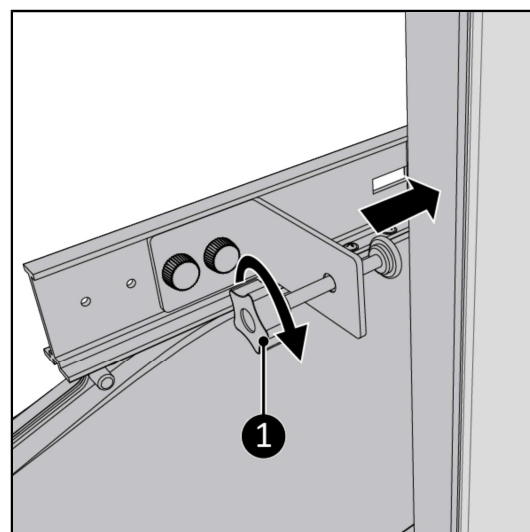

Figure 74.
16. Screw the clamping screw carefully to the window frame (Figure 74, pos. 1).